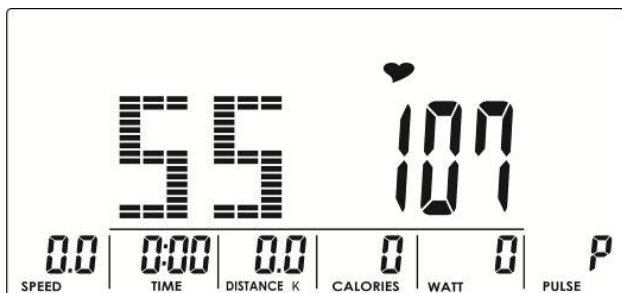

Figure 11
2. Choose the desired heart rate programme (55%, 75%, 90% or TA) with the jog dial and confirm your choice with the Mode button (Fig. 11 - 14).